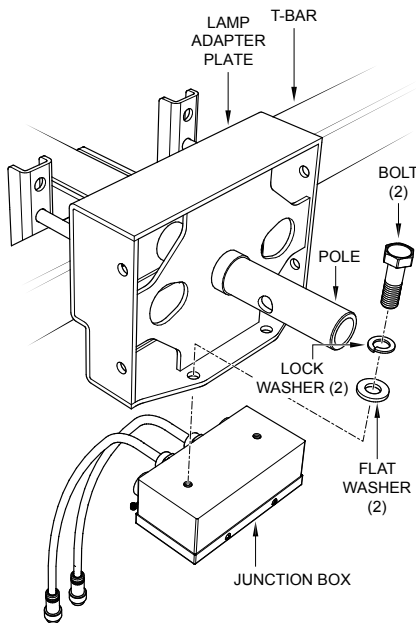

Figure 8. Junction Box Mounting
1. Secure the junction box (Figure 8) to the adapter plate using the supplied bolts (2), lock washer (2), and flat washer (2). Tighten mounting bolts securely.